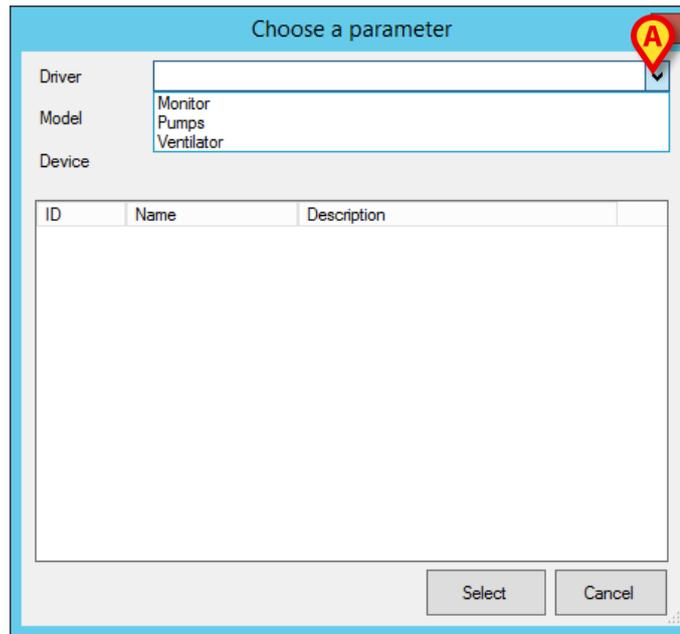
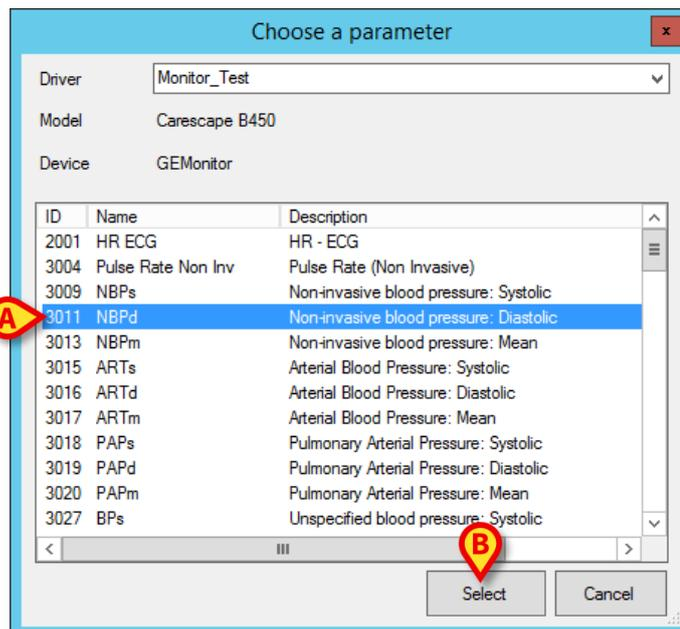

Fig 66
Fig 67
14. Click the ParameterId row to associate the id of the parameter to be charted. A button is displayed on the right. Click the button. The following window opens (Fig 66).
15. Click the button indicated in Fig 66 **A** to open the drop down “Driver” list. Here select the relevant item. The window will be populated with the list of parameters relating to the selected item (Fig 67).
16. Click the row corresponding to the wanted parameter on the list (Fig 67 **A**). The row will be highlighted.
17. Click **Select** (Fig 67 **B**). The selected parameter is this way associated to the chart.